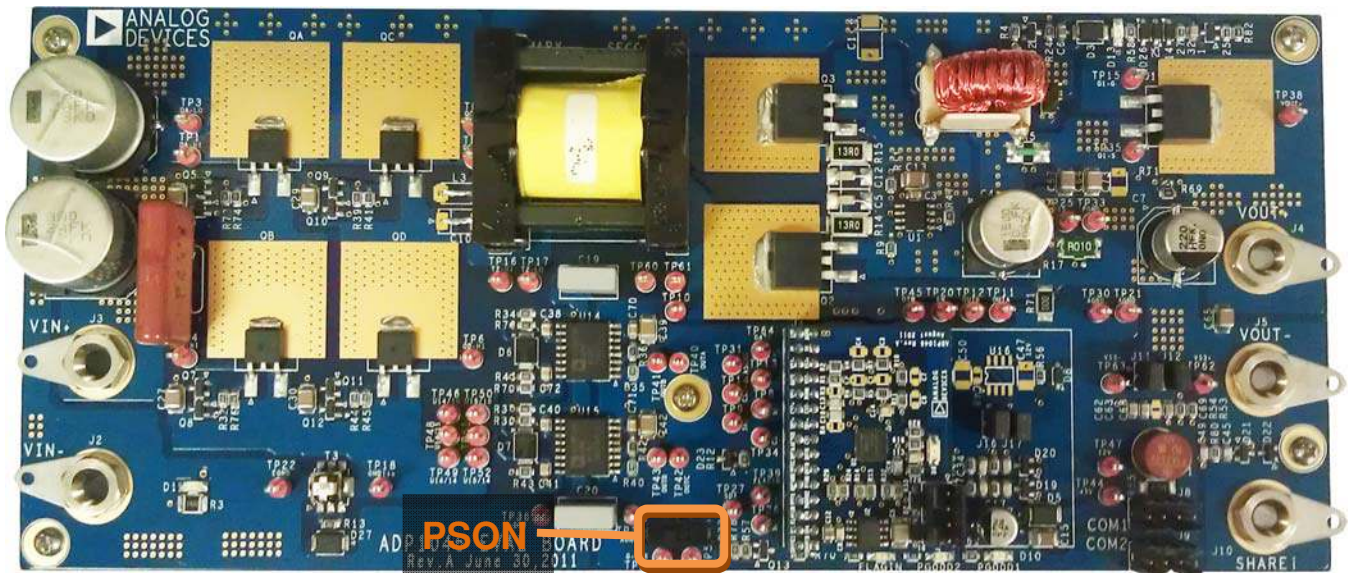

Figure 4 - 100W evaluation board showing PS\_ON hardware switch
- 2) Insert the daughter card in connector J1 as shown in Figure 4.
- 3) Ensure that the PS\_ON switch (SW1 on schematic) is turned to the OFF position. It is located on the bottom left half of the board (Figure 4).